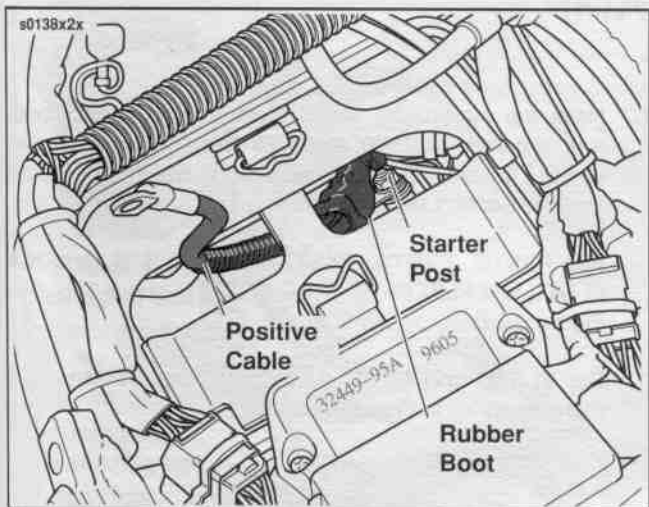

Figure 8-27. Positive Cable Routing - Starter
2. See Figure 8-27. Install positive cable to starter post with nut (if removed). Orient terminal so cable faces away (towards left side of motorcycle). Torque nut to 65-80 in-lbs (7.3-9.0 Nm). Cover nut with protective rubber boot.